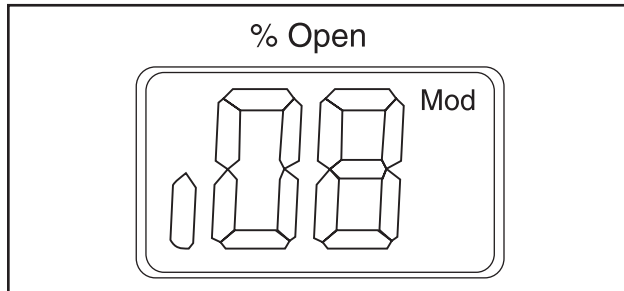

Figure 18
- Gives access to the Parameter list by keeping the push button activated for 2 seconds. A Parameter list example is shown below (parameter **i08**, Figure 18).